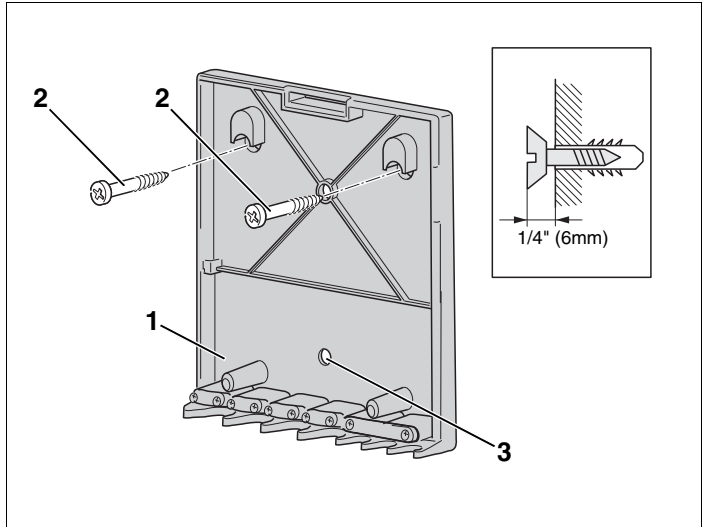

Fig. 9 Install wall bracket
- Mark hole positions for the wall bracket (Fig. 9, **Item 1**).
- Drill holes according to the wall bracket's drilling template (Fig. 9, **Item 1**) 1/4" (6mm).
- Insert wall anchors in the holes and screw in the screws provided (Fig. 9, **Item 2**) until their heads are 1/4" (6mm) off the wall.
- Hook the wall bracket into position (Fig. 9, **Item 1**) and tighten screws. If necessary, secure the bracket (Fig. 9, **Item 1**) to the wall using its extra hole (Fig. 9, **Item 3**).